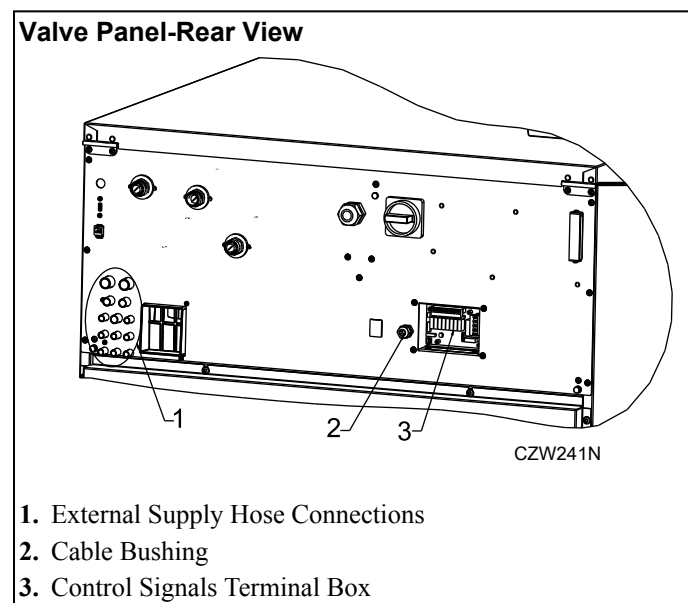

Figure 51
1. Facing the rear of the machine, locate the eight (8) 8 mm [5/16 inch] supply hose connections found on the left-hand side of the valve panel. Refer to *Figure 51*
The electric connection for supply control signals (if used) is available on the rear panel. Refer to *Figure 51*. At the terminal box, there is a label for electric connection.
This function can be activated by an external contact which is connected between the pins ↑ and ↓. Refer to *Figure 51*. Such connection is possible only with machines which had been ordered with the "Heating Delay / Waiting for Detergent" option.